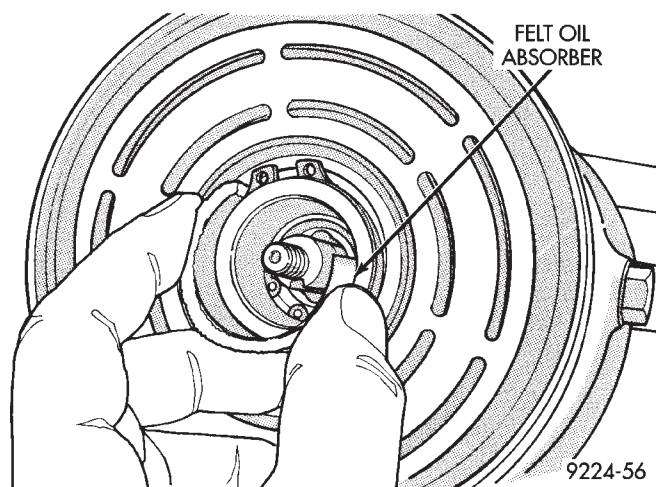
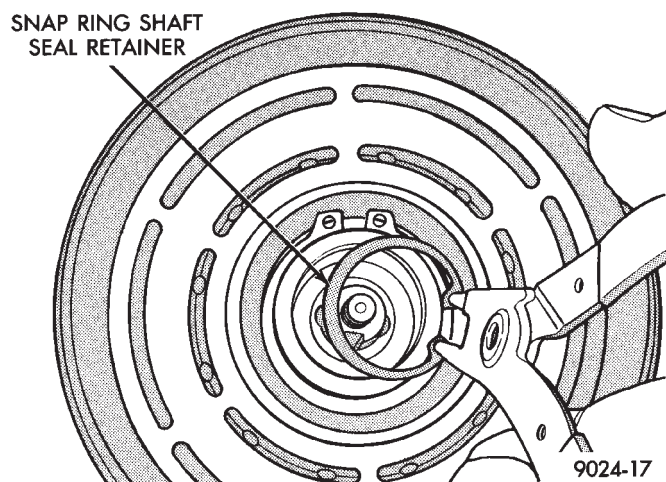

Fig. 11 Felt Contaminant Absorber
Fig. 12 Shaft Seal Snap Ring
(3) Remove the compressor clutch assembly and shaft key.
(4) Remove the felt contaminant absorber and retainer (Fig. 11).
(5) Using a mineral spirits based solvent, thoroughly clean and dry the seal end of the compressor. This will help to avoid refrigerant system contamination.
(6) Remove the snap ring shaft seal retainer (Fig. 12). Do not use the old snap ring to assemble.